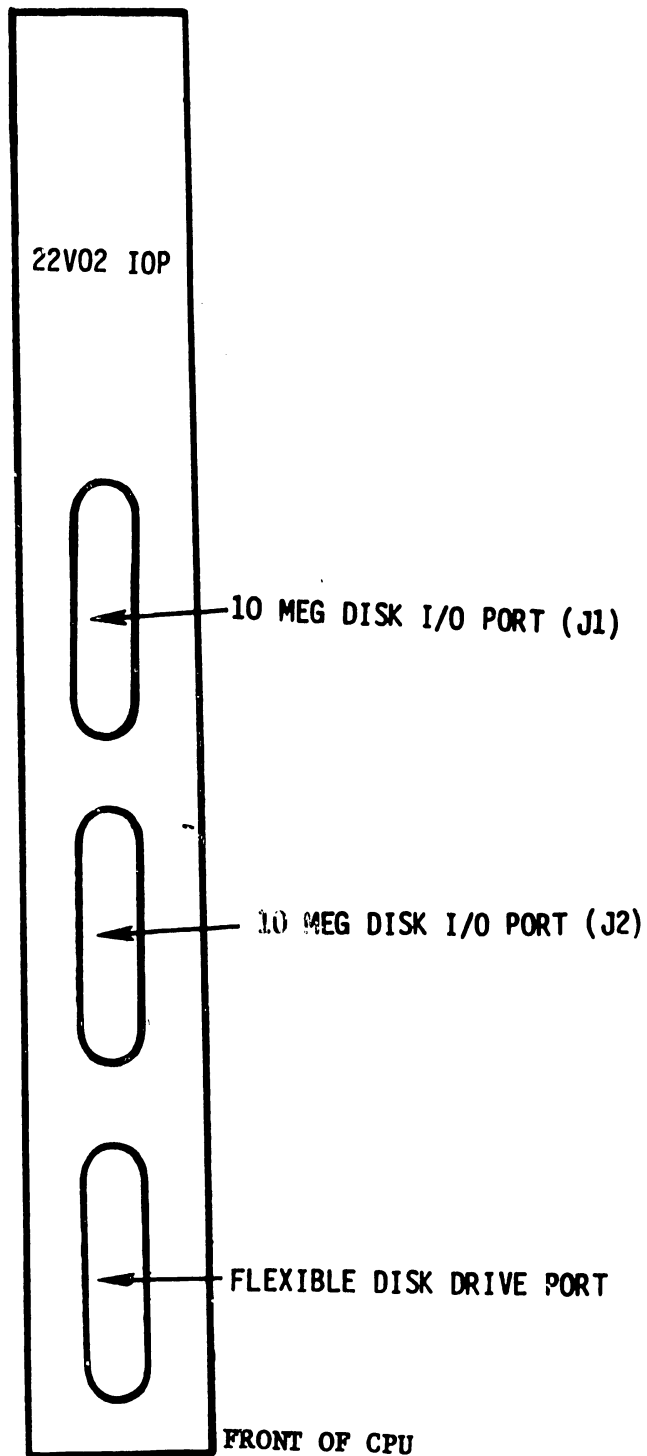

FIGURE 4-68 TOP VIEW OF 22V02 IOP
3. Attach the other end of the I/O cable to the 22V02 IOP in the mainframe (Figure 4-68). The I/O cable should run from receptacle J1 on back of the disk drive, through the cable entrance space on the side of disk drive chassis, and up through the cable entrance space in rear base of processor mainframe.
The connector on cable J1 should be attached to port J1 on the 22V02 IOP (Figure 4-68). Since the earlier model cables were not labeled, note that the connector to be attached to the J1 port has external twisted pairs.
Attach the connector on cable J2 to port J2 on the 22V02 IOP (Figure 4-68).